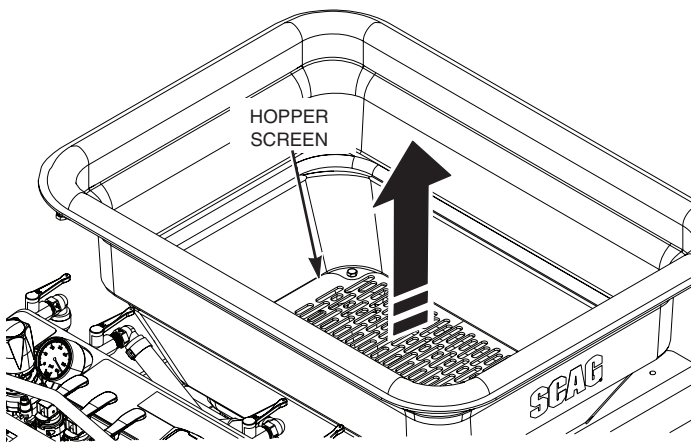

Figure 6-10. Hopper Screen
5. Lift and remove the hopper screen from the bottom of the hopper. See Figure 6-10.